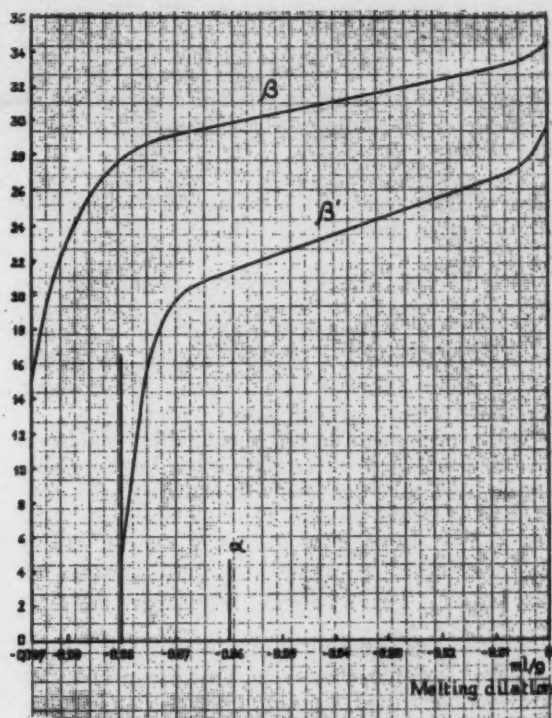

Fig. 13. Melting dilation curves of two polymorphic forms of cacao butter.
Similar information can be derived from the dilatometric measurements. Curves for the melting dilations are given in Fig. 13. For the stable form the curve is exactly the same as that obtained from the heat of fusion, except for the section under 28° C (82.5° F). Here the proportion of liquid phase is higher than that corresponding to the heat of fusion curve, and melting appears to start at 15° C (59° F). It may be assumed that the melting dilation curve gives the more accurate picture, because the dilatometric method is static and allows a more complete equilibrium to be established (3). However, the difference is small, and the point of mid-melting is 30.5° C (87° F) with both methods. The melting dilation found is 0.097 ml/g. considerably more than that reported by previous authors (19), (15), (35). The coefficient of expansion of solid cacao butter in the β -form is 0.00054 ml/g/° C between -20° C (-4° F) and 10° C (50° F); it is smaller below -20° C where there is a point of inflection. For liquid cacao butter a coefficient of expansion of 0.00085 ml/g/° C is found. This agrees well with the values found by previous workers. For the solid state, our value is much lower than that of Hofgaard (0.00090 ml/g/° C) which proves that the samples of this author were not in the stable state, but higher than established values for oils and fats (2) which are however based on expansibilities at temperatures near -40° C (-40° F), that is below the point of inflection.